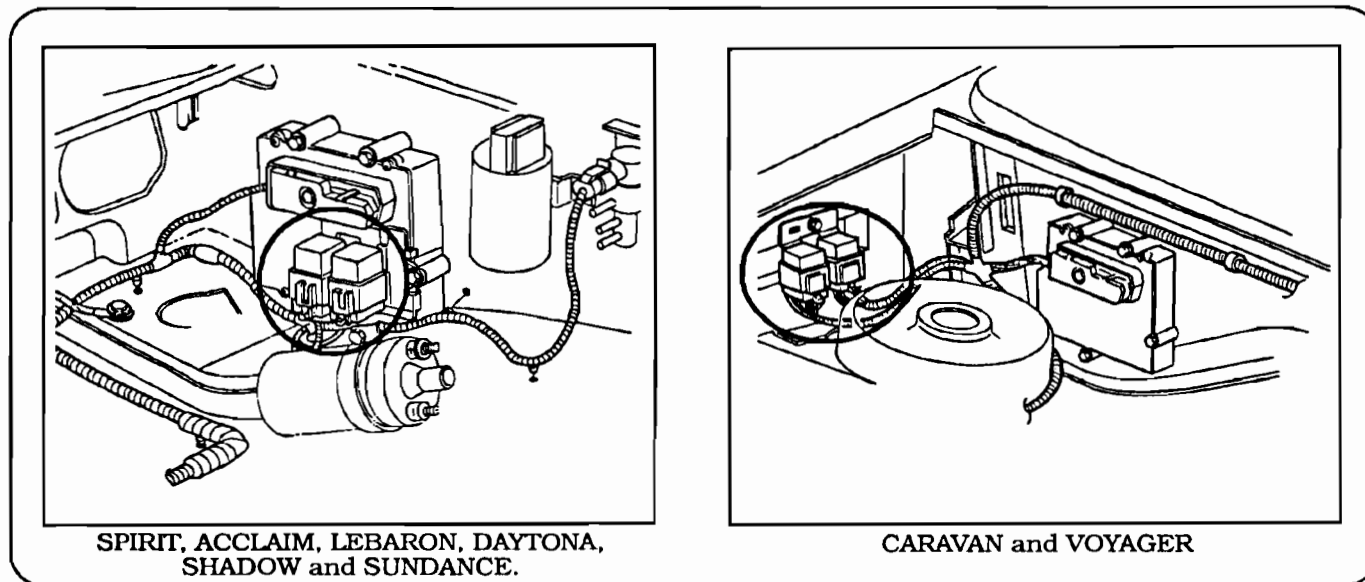
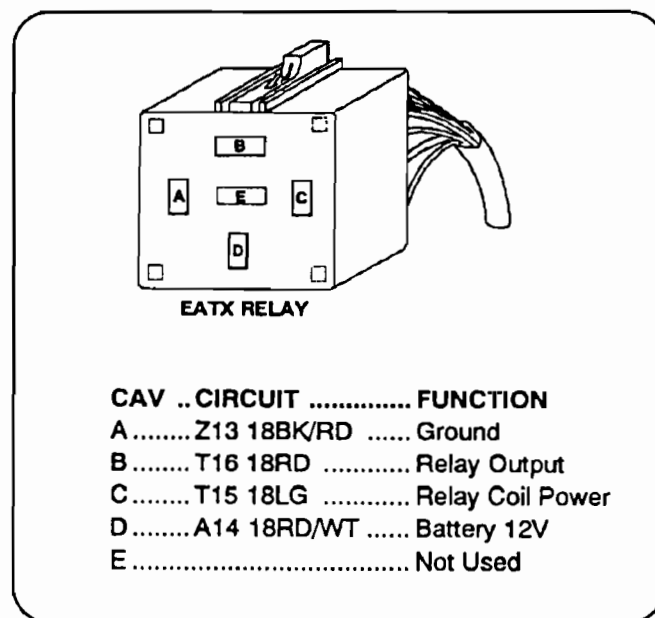

Figure 83
Figure 84
- (1) Locate the EATX relay location by using figure 83 and refer to figure 84 for cavity identification.
- (2) Carefully bend the EATX relay bracket to gain access to back probe the connector. NOTE: FOLLOWING TEST CANNOT BE MADE WITH CONNECTOR REMOVED.
- (3) Using a volt meter set to DC volts, take the positive lead and carefully back probe the D terminal (Red with white strip wire). Place the negative lead onto the ground post of the battery. Battery voltage should be seen here with ignition switch either on or off. If no voltage appears, inspect and repair the wiring for an open or a blown fusible link. If there is battery voltage, go to step 4.
- (4) Using an OHM meter, take the positive lead and carefully back probe the A terminal (Black with red strip wire) and put the negative lead to a good ground. If you have good continuity, go to step 5. If there is no continuity, the wire coming out of terminal A has a bad ground. Repair the ground wire coming out of terminal A and repeat this check to insure that you have good continuity.